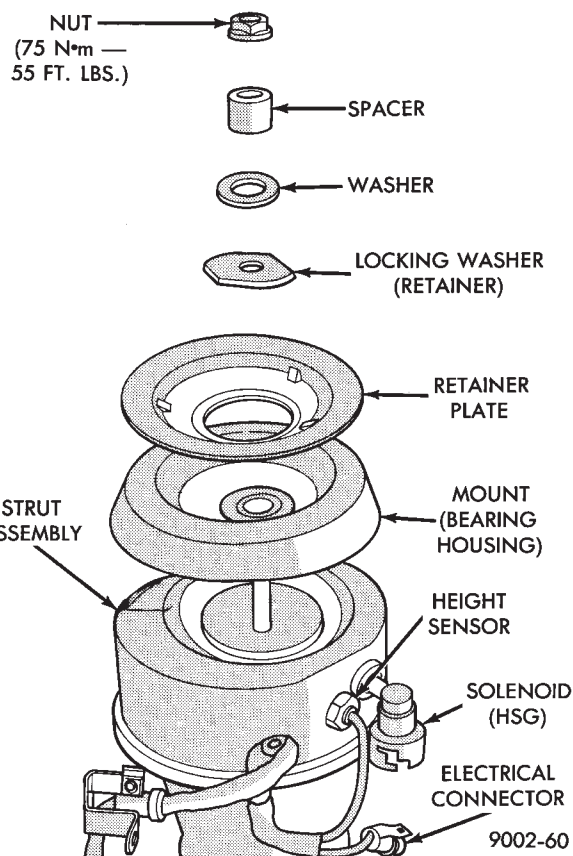

Fig. 17 Air Strut Upper Mount Assembly
- (1) Hold retaining plate locking washer and remove strut rod nut.
- (2) Remove locking washer, retainer plate, spacer, flat washer and mount/bearing housing assembly (Fig. 17).
- (3) Assemble in reverse order. Hold retainer plate locking washer with suitable tool and tighten strut rod nut to 75 N•m (55 ft. lbs.) torque.